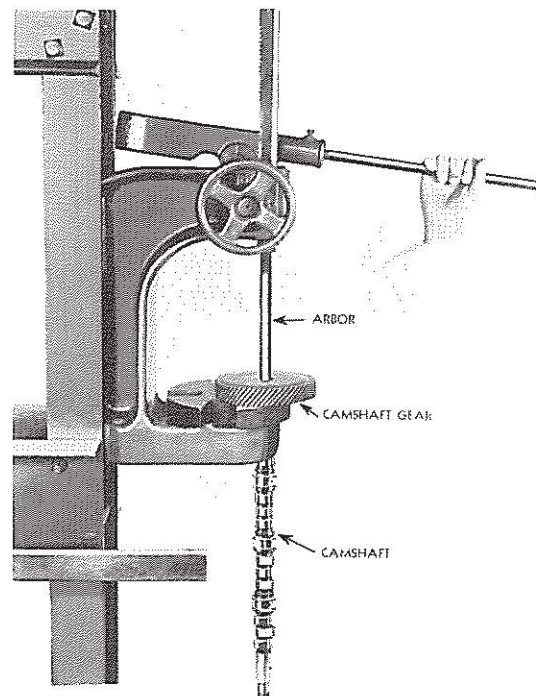

FIG. 3
1. The gears may be removed from both the camshaft and balance shaft by supporting the shaft and gear assembly in an arbor press and pushing the shaft through the gear, as shown in Fig. 3.